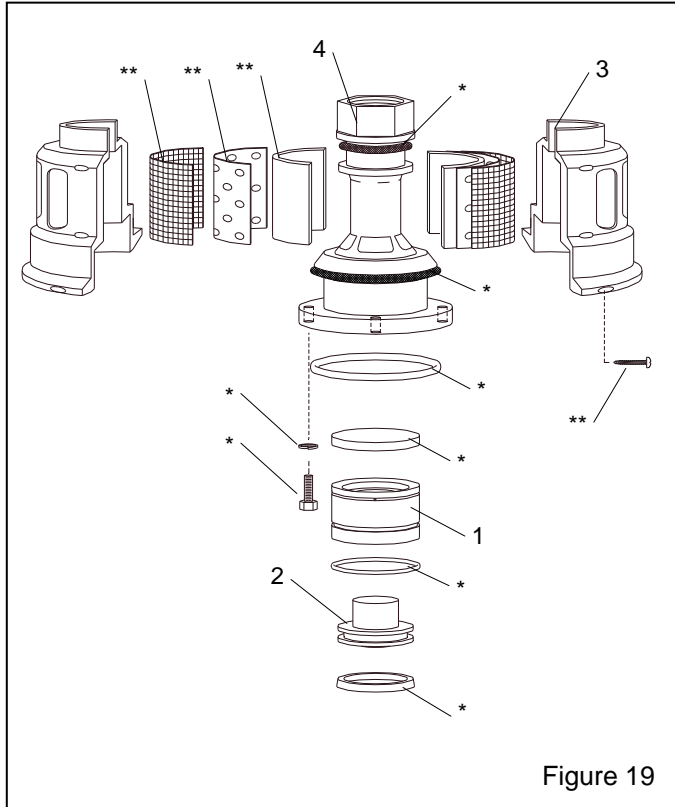

Figure 19
**8.7 Millennium Valve Outlet Segment, Figure 19**